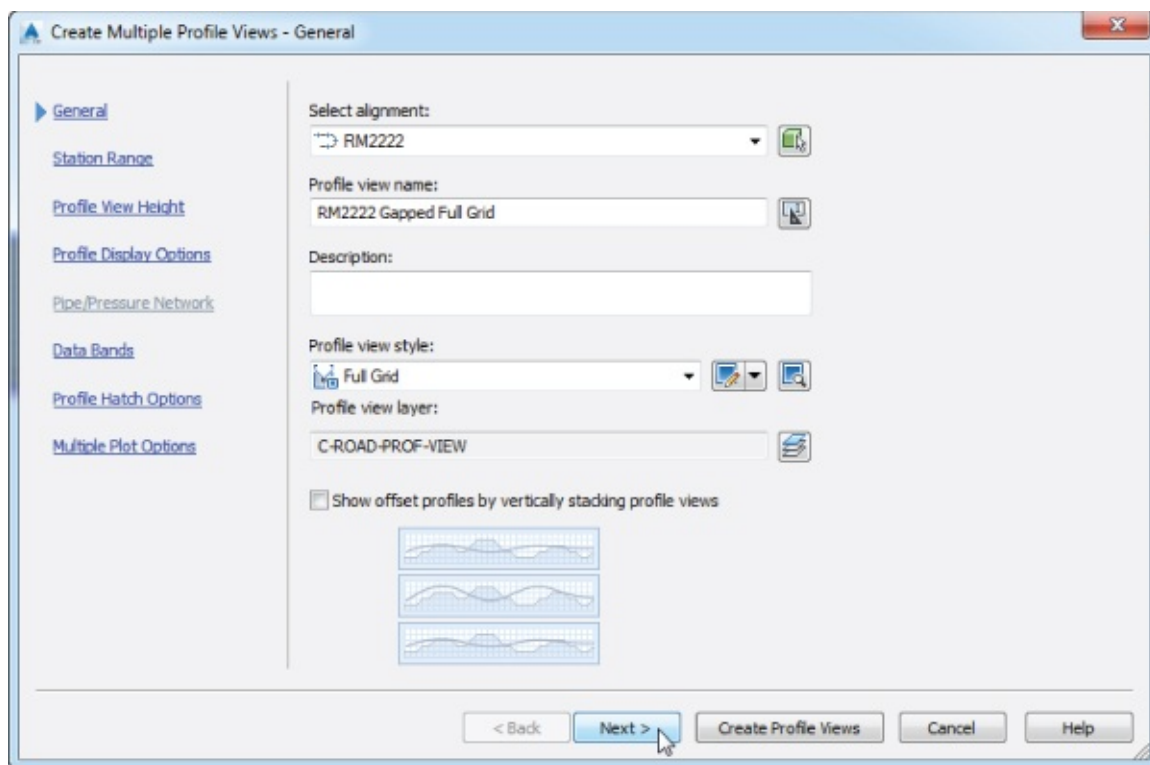

Figure 7.43 The Create Multiple Profile Views – General wizard page
3. Verify that the Select Alignment drop-down list shows RM2222, Profile View Name is set to RM2222 Gapped Full Grid, and Full Grid is selected in the Profile View Style drop-down list, as shown in Figure 7.43; then click Next.